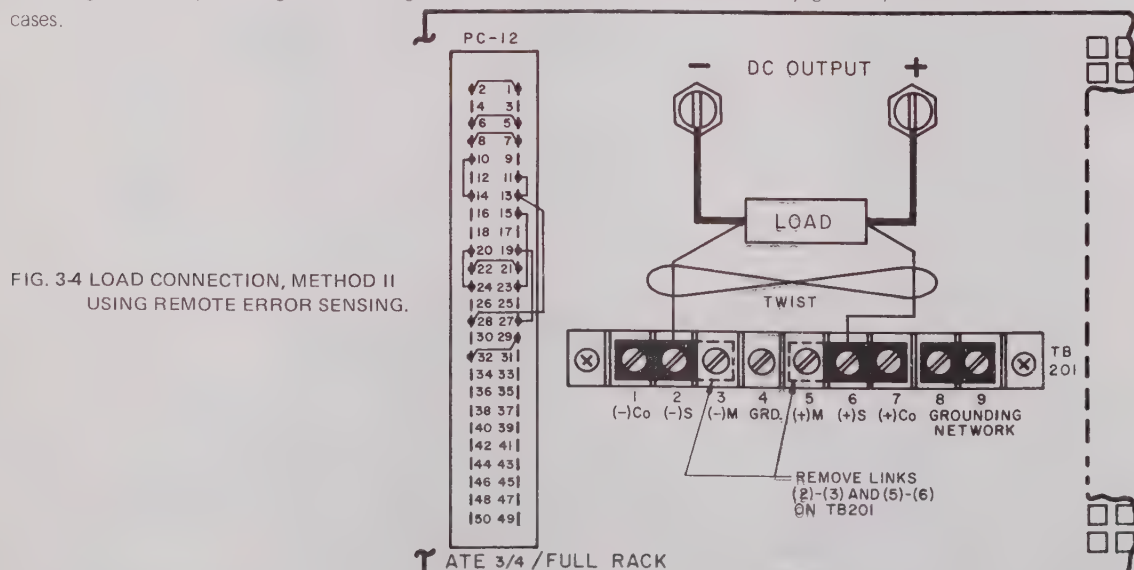

FIG. 3-4 LOAD CONNECTION, METHOD II USING REMOTE ERROR SENSING.
3-22 To avoid excessive output effects at remote loads, error sensing must be used. A twisted, shielded pair of wire from the sensing terminals directly to the load will compensate for load wire voltage drops up to 0.5 volt per wire (refer to FIG. 3-4). Observe polarities: The **negative sensing wire** must go to the **negative load wire**, and the **positive sensing wire** goes to the **positive load wire**.
- 3-25 This method is suitable if step changes in the load are expected if, for example, the load is rapidly changing in value, or if the power supply is programmed with step functions (square wave, pulse, etc.) and maximum dynamic performance is expected directly at the load terminals. In these cases, the output capacitor is disconnected at the power supply and brought with a heavy, twisted-wire pair directly to the remote load (refer to FIG. 3-4).